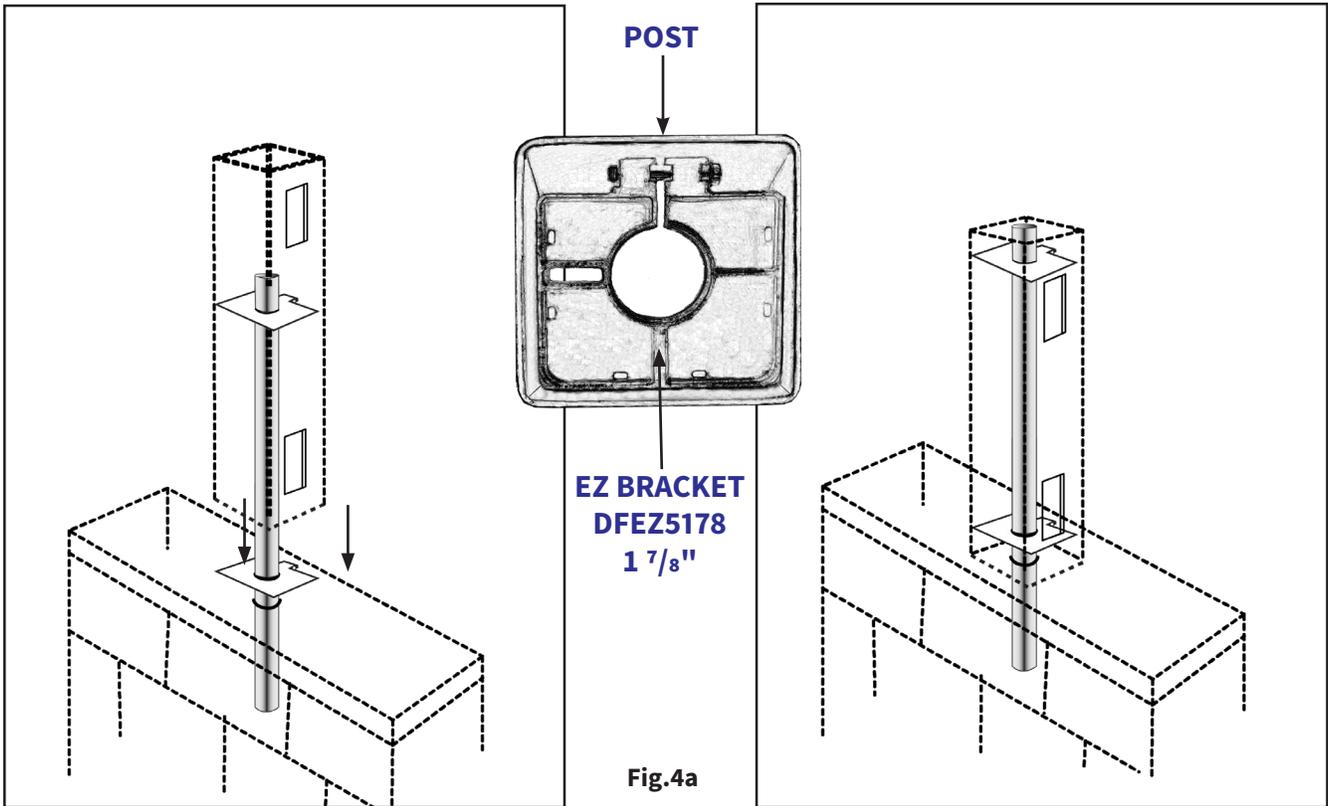

Fig.4a
1. Install a wall topper post over EZ post bracket. Let it rest on a concrete wall (**Fig. 4a**).
1. Install a wall topper post over Post Tower. Let it rest on a concrete wall (**Fig. 4a**).